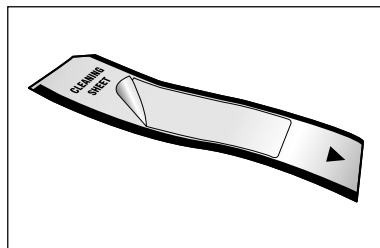

figure 1
- 1 At the pre-cut line, peel the backing from the cleaning sheet (see figure 1).